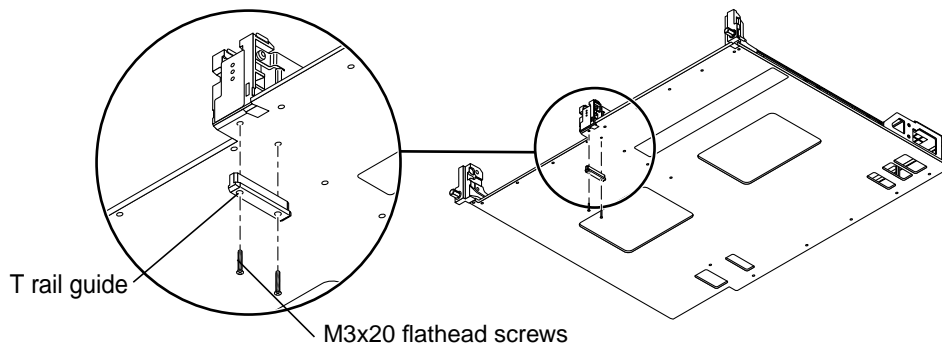

FIGURE 1 Removing the T Rail Guide
3. Remove the two (2) M3x20 flathead screws securing the T rail guide of the new carrier plate, to the center guide bracket of the new carrier plate and discard. See Figure 1. These items are not needed for this configuration.
3. Remove the two (2) M3x20 flathead screws securing the T rail guide of the new carrier plate, to the center guide bracket of the new carrier plate and discard. These items are not needed for this configuration. See Figure 1.